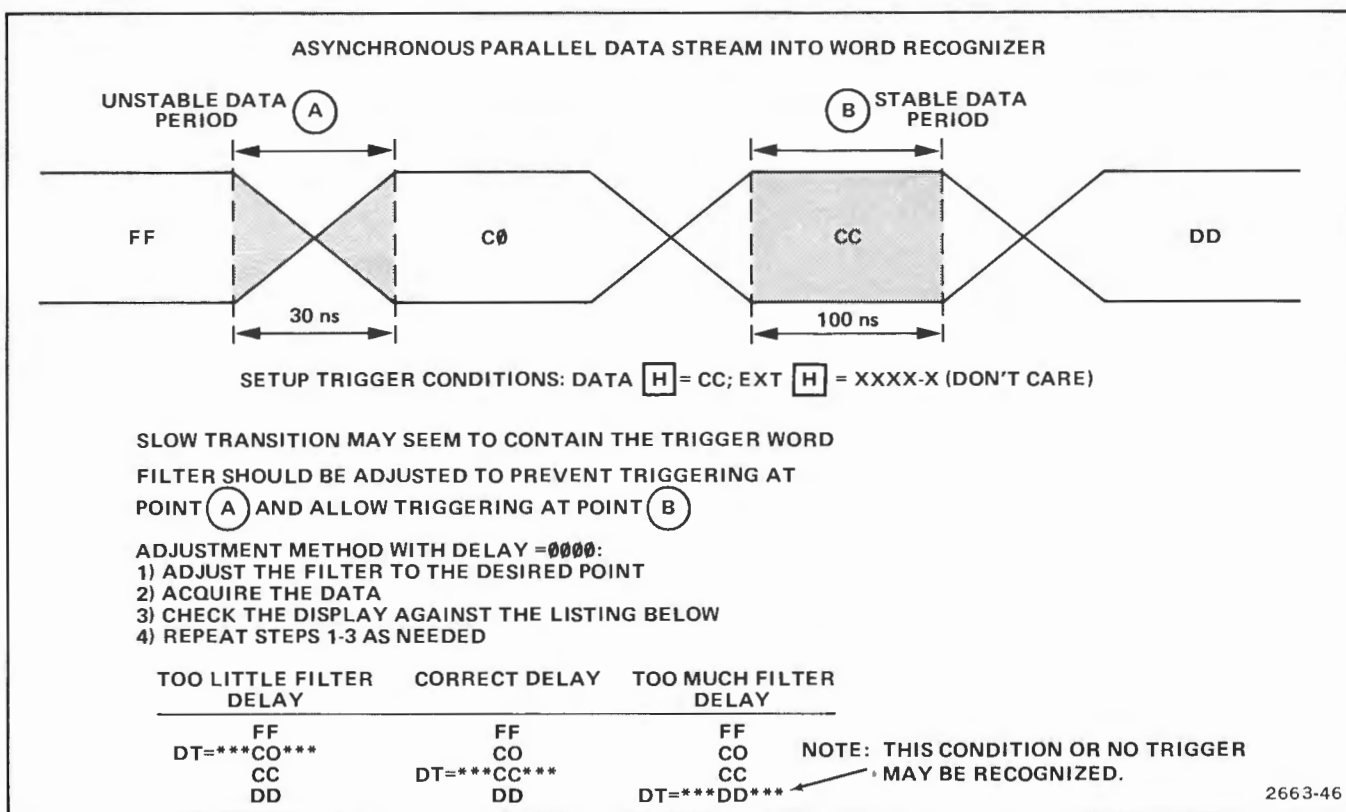

Figure 2-9. Data transitions, filter adjustment, and triggering.
- ② **THRESHOLD VOLTAGE**—A screwdriver adjustment for varying the input thresholds when the **VAR/TTL** switch is in the **VAR** position.
- ③ **MONITOR**—Actual threshold voltage may be checked with a meter at the **MONITOR** jack.
- ④ **SERIAL/SIGNATURE DATA INPUT**—This input must have the proper data probe connected to it for serial or signature applications. Data applied to the serial data input is processed according to EIA STD RS-232-C protocol prior to being stored in the Data Memory and is displayed in the same manner as parallel data. The same probe and connector are used for signature applications, but the operator-selected input signal requirements and the display are different.
- ⑤ **P6451 INPUT ONLY**—The Data Acquisition probe can only be connected to this connector. The eight parallel bits of data acquired by the Data Acquisition probe are processed differently than the serial data; however, the data is stored in the Data Memory and displayed in the same manner.
- ⑥ **P6406 INPUT ONLY**—The Word Recognizer probe can only be connected to this connector and can be used to expand the 308 trigger capabilities. Keep in mind only the eight data bits acquired by the Data Acquisition probe will be stored and displayed.
- ⑦ **EXTERNAL TRIGGER QUALIFIER INPUT and T/C**—This input can be used in several manners depending on the position of the **T/C** (Trigger/Clock) switch. With the **T/C** switch set to **T**, word recognition capabilities are extended.
- ⑧ **ASYNC FILTER**—This screwdriver adjustment can be set to prevent false triggering on word recognition patterns of shorter duration than provided for by the filter setting, when operating in the asynchronous mode. Figure 2-9 (Data Transitions, Filter Adjustment, and Triggering) illustrates how a false trigger can occur, giving the operator erroneous data indications.
- ⑩ **WORD RECOG TRIGGER OUTPUT**—This output goes to a TTL logic HI whenever the input data matches data programmed by the operator.